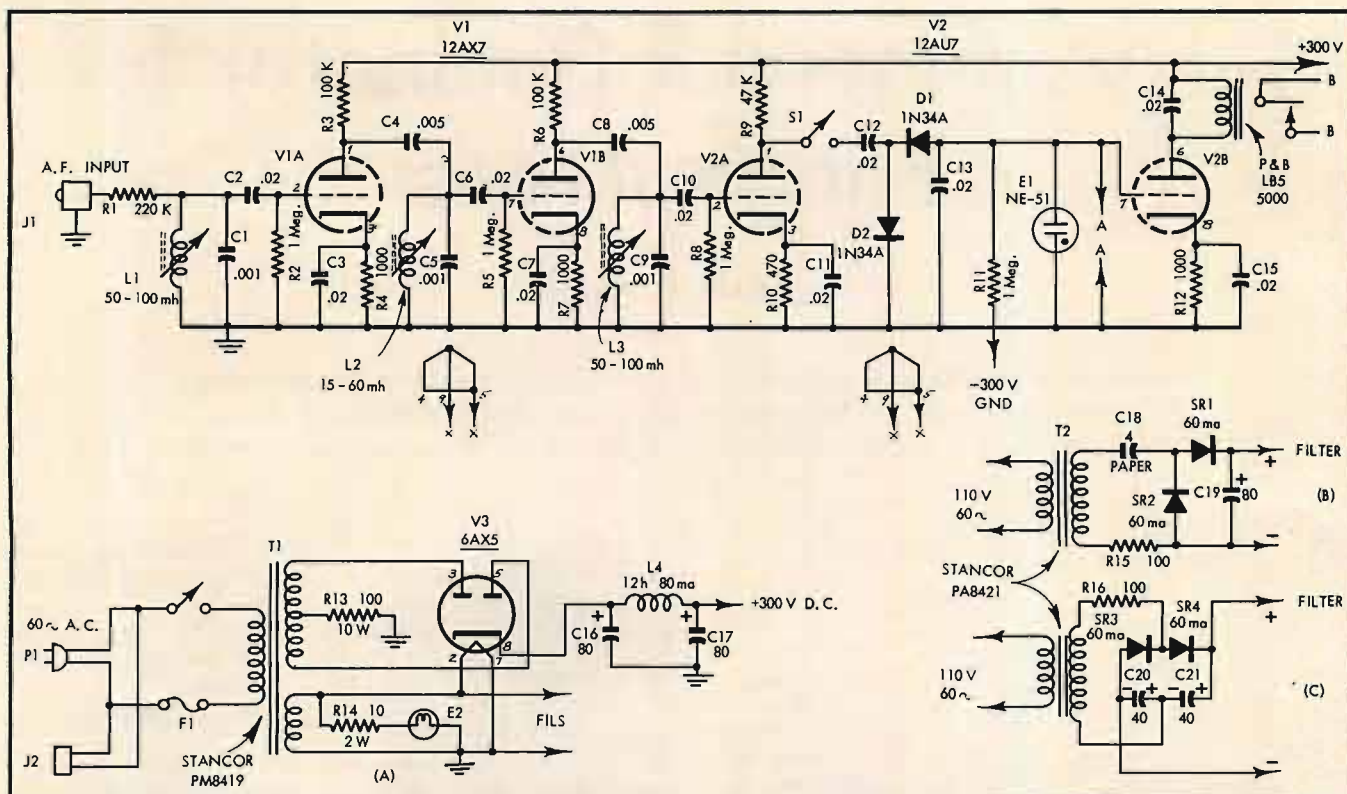

Fig 2. Circuit of sensitive 20-kc selective amplifier, with two output modes and three optional power supplies.
Circuit of this selective amplifier, with alternative output modes, and two alternative power supplies, is shown in Fig. 2. Several other rather obvious alternatives can be used without impairing operation of the device, which has no critical adjustments except tuning.
Power-supply requirement is approximately 6.3 volts at 0.8 amperes for filaments and pilot and 300 volts at 20 ma for plates. This can safely be "robbed" from many receivers. Where this is not possible or desirable, a separate power supply must be provided. That shown at (A) in Fig. 2 works excellently, but is much larger than necessary. Alternative plate circuits shown at (B) and (C) work well, and not only use an electrically smaller transformer, but also generate much less heat. An electrolytic capacitor can be used in place of the 4 μ f paper capacitor shown at (B), but a larger capacitance is usually necessary,
Construction is entirely straightforward, and not only requires no special techniques, but component arrangement can be modified to suit individual conditions and tastes without affecting performance. The model illustrated, which has both bias and relay outputs, and an oversize power supply, was constructed on a 7" by 12" by 2" Seezak chassis. With single output mode and either of the alternative power supplies shown in Fig. 2, a chassis 5" by 9" by 2" will be more than adequate.